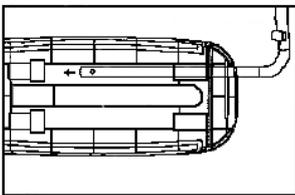

fig.7
- 4.3. Use the hole on the back side of the tank bottom, push the lever through the hole (fig.7).